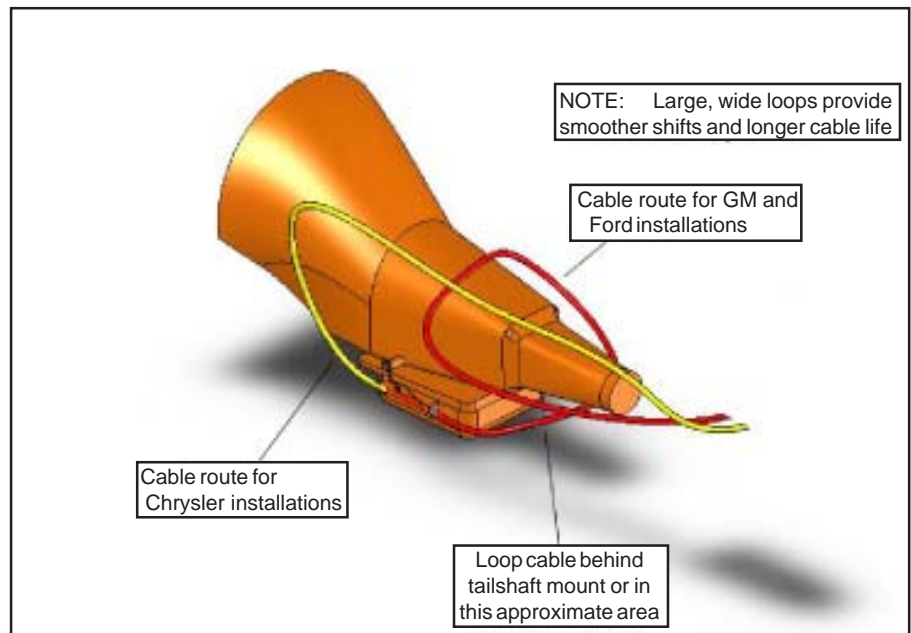

Figure 3
STEP 7. Install the shifter mechanism into the vehicle. Slide the shifter cable through the carpet and the hole in the floorboard. Bolt the shifter down using four 1/4" hex bolts and nuts. If required use 1/4" washers as shims between the shifter mechanism and the floor to level the shifter. Do not bend the shifter mounting tabs. **ROUTE THE CABLE AS SHOWN IN FIGURE 3, AVOID SHARP BENDS WHICH WILL KINK AND DAMAGE THE CABLE.** Use cable clamps or tie wraps to secure the cable housing to the chassis to avoid contact with hot engine or exhaust system. Seal the cable hole shut to avoid the entry of exhaust fumes or water. For General Motors vehicles go to **Step 8**, for Ford vehicles go to **Step 13**, for Chrysler vehicles go to **Step 19**, for aluminum Powerglide equipped vehicles go to **Step 25**.
STEP 10. Route the shifter cable according to **Figure 3**. Avoid kinks and sharp bends and route the cable away from hot engine or exhaust parts.
STEP 16. Route the shifter cable according to Figure 3. Avoid kinks and sharp bends and route the cable away from hot engine or exhaust parts.
STEP 21. Route the shifter cable according to **Figure 3**. Avoid kinks and sharp bends and route the cable away from hot engine or exhaust parts.
STEP 34. Route the shifter cable according to **Figure 3**. Avoid kinks and sharp bends and route the cable away from hot engine or exhaust parts.